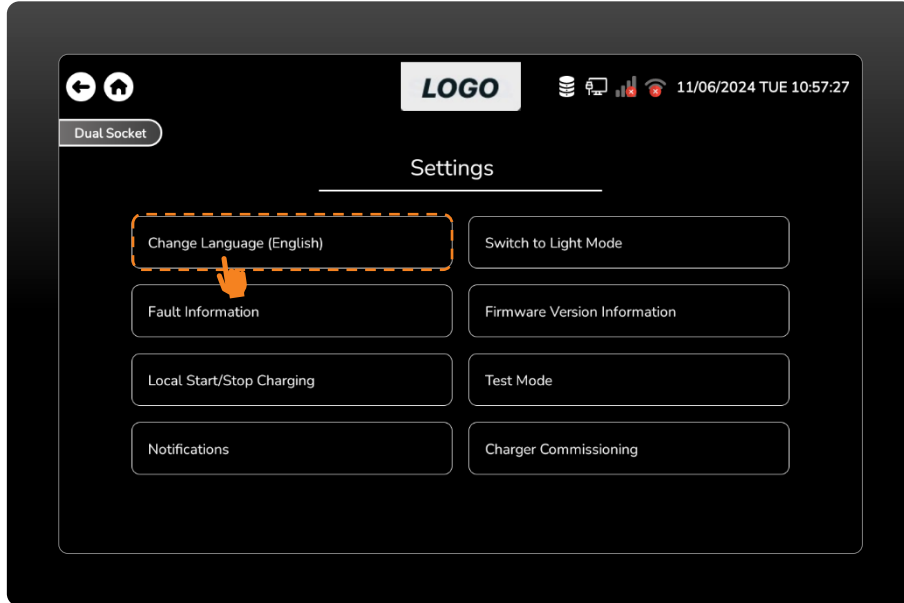

Figure 7 Press the Change Language Option.
- Pressing the "Change Language (English)" option will display a pop-up on the screen. (Figure 7)